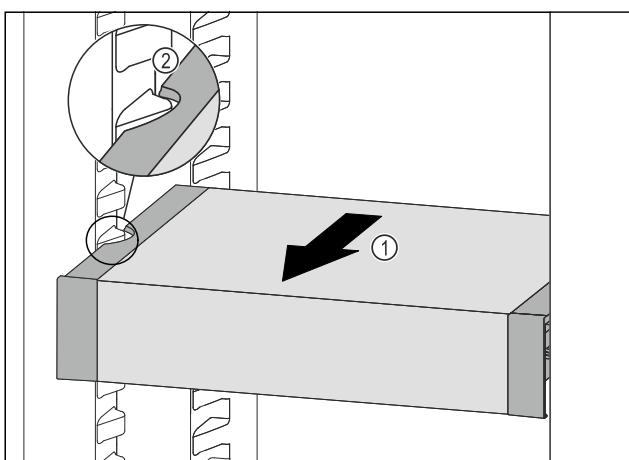

Fig. 104
► Pull VarioSafe forwards Fig. 104 (1) until the recesses in the side of the VarioSafe are at the level of the support rib in the fridge section. Fig. 104 (2)